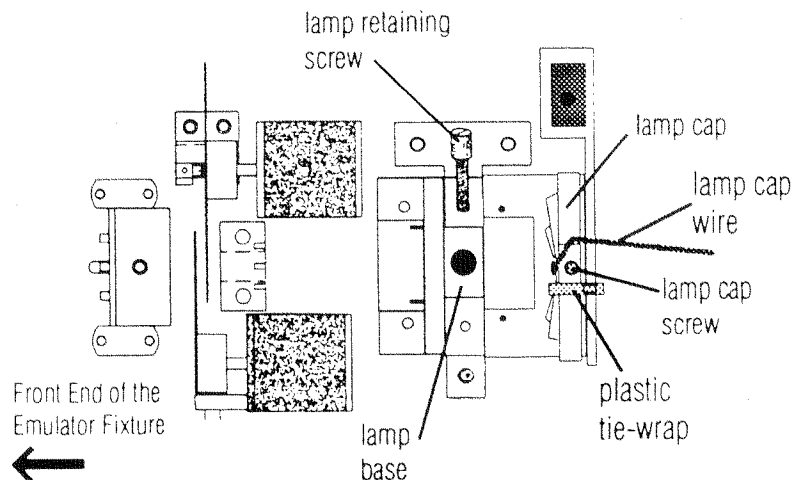

Figure 2.5 Inside the Emulator Fixture
2. Remove the top door to gain access to the lamp base and lamp retaining screw. (See Fig. 2.5)
3. Locate the lamp base, lamp retaining screw and lamp cap. (See Fig. 2.5)
4. Carefully cut the plastic tie-wrap which secures the lamp cap for transport. (See Fig. 2.5)
5. The lamp cap is attached to the fixture by the lamp cap wire. (See Fig. 2.5) Set the lamp cap up out of the way so it is not blocking the lamp base.